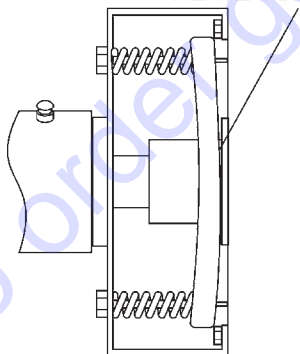

Figure 28. Replacing Drum Seals
3. Once the pressure plate touches the drum, its time to replace the graphite seals (Figure 28).